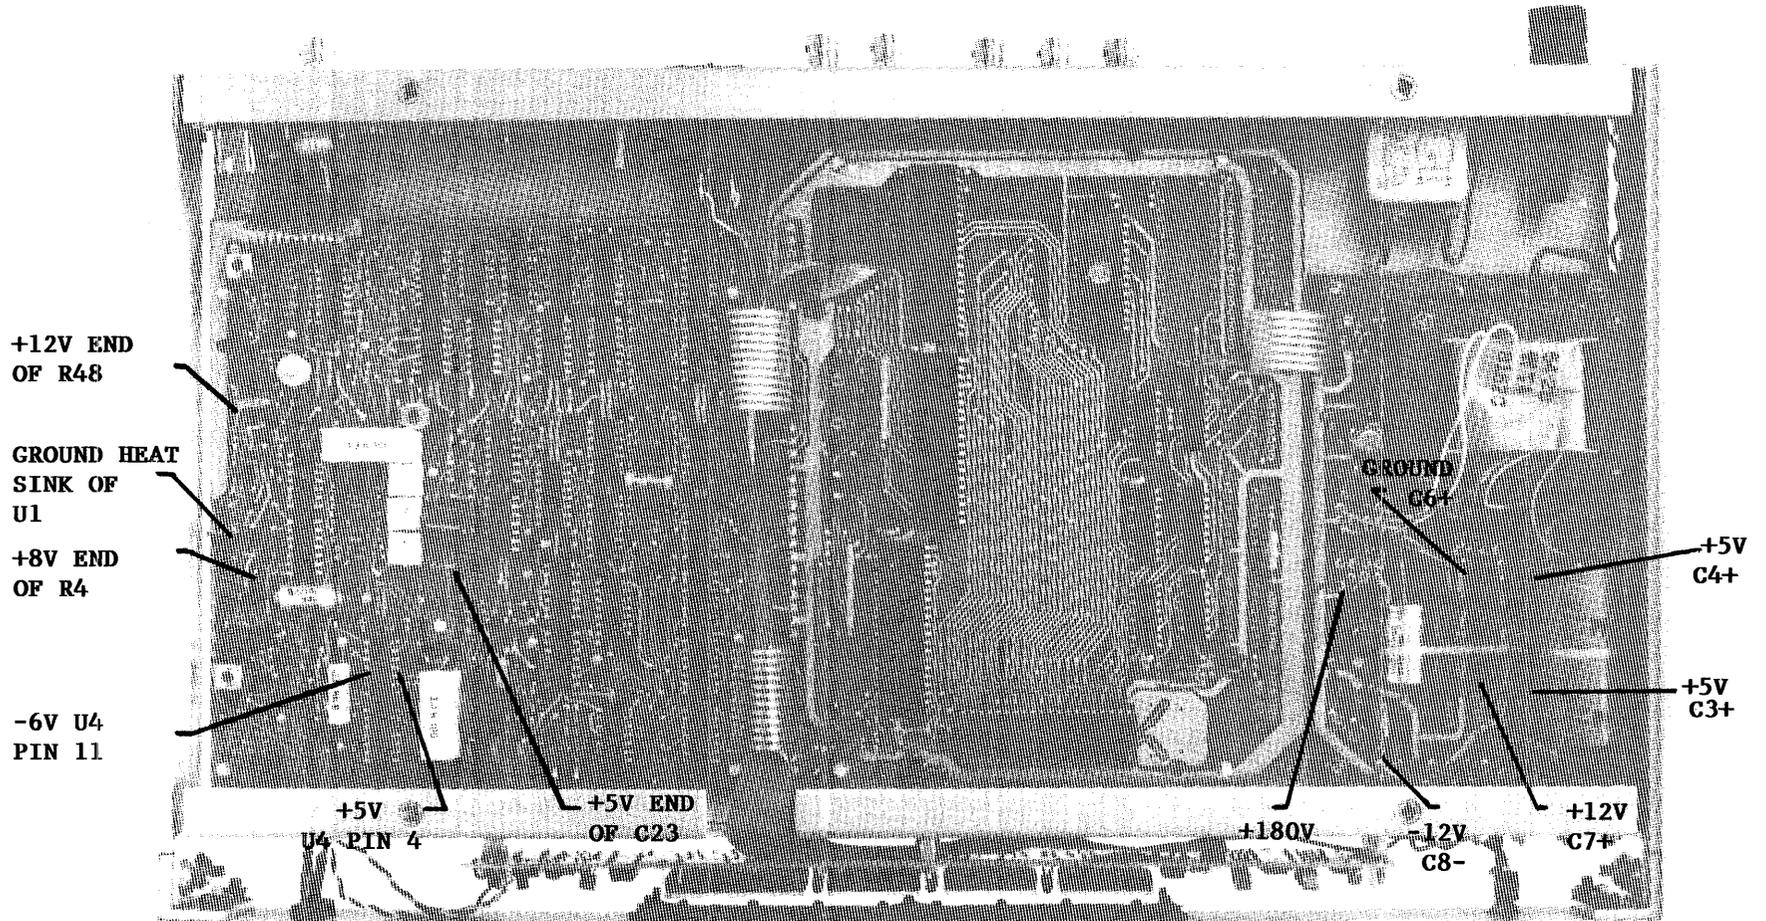

FIGURE 5-4 VOLTAGE TEST POINT LOCATIONS - MODEL 468-DC
- 5-21 If no analyzer is available, make a dummy load using a 50 Ohm resistor in series with a 0.1 micro F capacitor (see FIGURE 5-4). Connect this load to the antenna input BNC. Look at TP1 with a scope capable of responding to 20 MHz and tune T1 for maximum output.